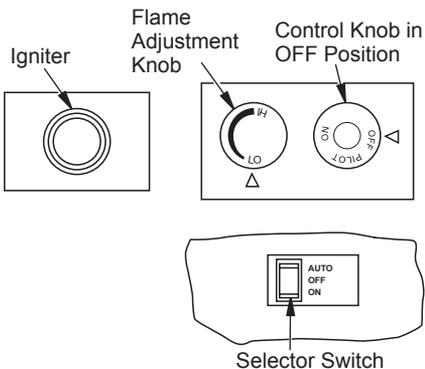

Figure 35 - Control Knob, Igniter Button and AUTO/OFF/ON Switch
4. Press in and turn control knob clockwise  to the OFF position (see **Figure 35, Page 24**).
5. Wait five (5) minutes to clear out any gas. Then smell for gas, including near the floor. If you smell gas, STOP! Follow "B" in the safety information, column 1. If you don't smell gas, go to the next step.
- Press in and turn control knob counterclockwise ↶ to the PILOT position. Press in control knob for five (5) seconds (see **Figure 35**).